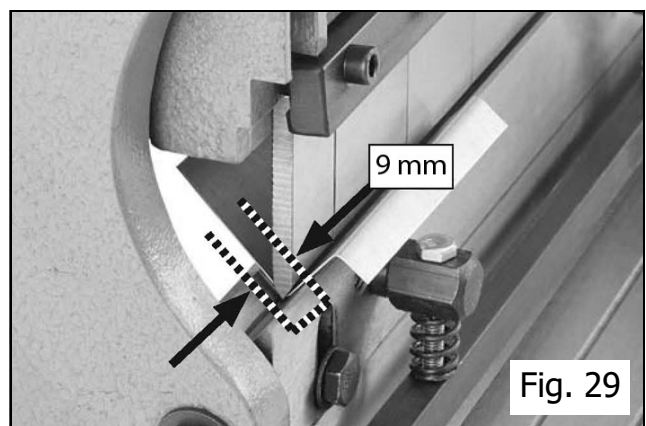

Fig. 29
4. If a reverse bend is required, re-install the workpiece upside-down, as shown in Figure 29, and repeat Steps 2-3. The minimum reverse bend possible is 9 mm.